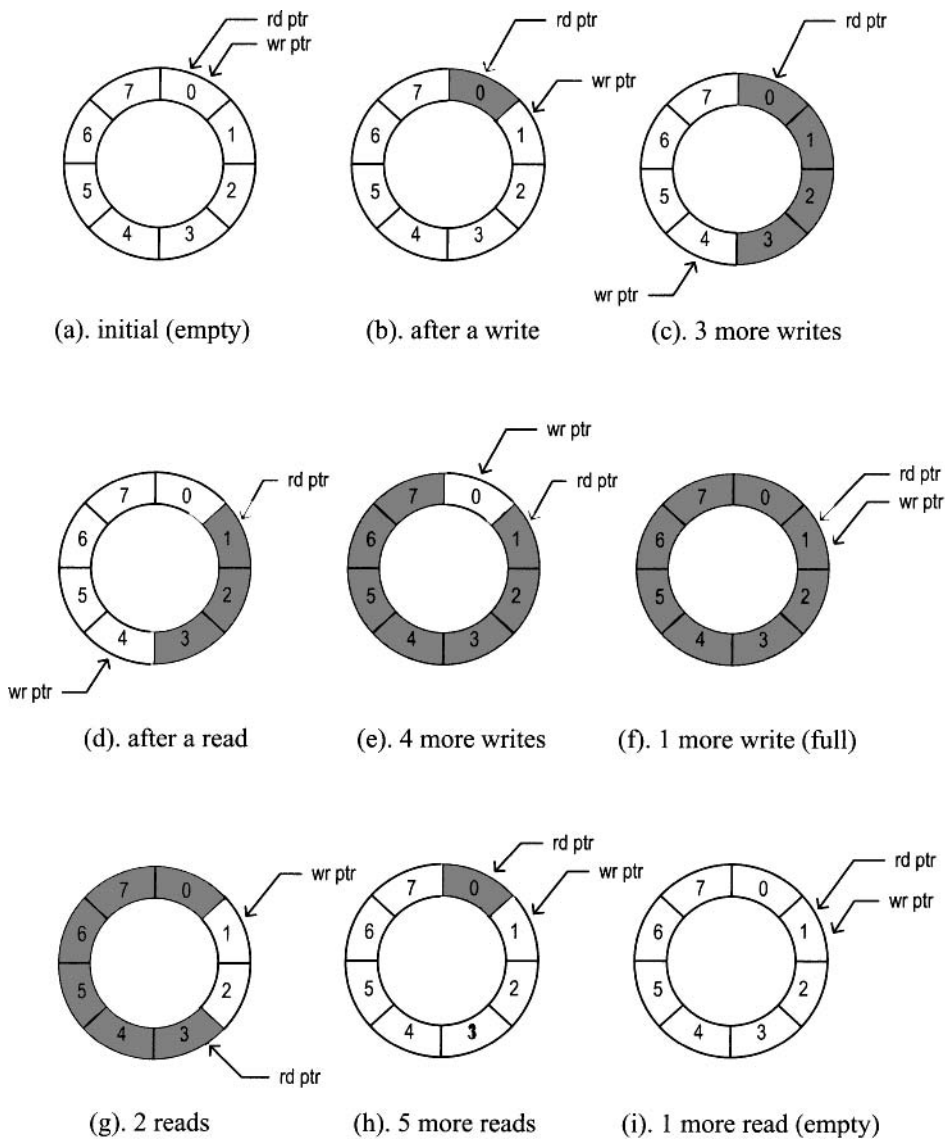

Figure 4.11 FIFO buffer based on a circular queue.
**Circular-queue-based implementation** One way to implement a FIFO buffer is to add a control circuit to a register file. The registers in the register file are arranged as a circular queue with two pointers. The *write pointer* points to the head of the queue, and the *read pointer* points to the tail of the queue. The pointer advances one position for each write or read operation. The operation of an eight-word circular queue is shown in Figure 4.11.
A FIFO buffer usually contains two status signals, *full* and *empty*, to indicate that the FIFO is full (i.e., cannot be written) and empty (i.e., cannot be read), respectively. One of the two conditions occurs when the read pointer is equal to the write pointer, as shown in Figure 4.11(a), (f), and (i). The most difficult design task of the controller is to derive a mechanism to distinguish the two conditions. One scheme is to use two FFs to keep track of the empty and full statuses. The FFs are set to '1' and '0' during system initialization and then modified in each clock cycle according to the values of the *wr* and *rd* signals. The code is shown in Listing 4.20.